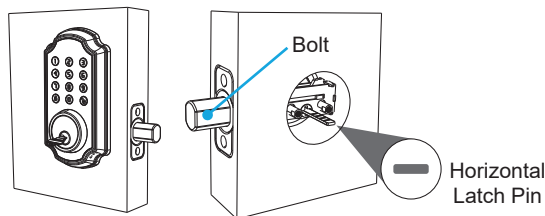

Fig. 8
Step 3. Insert the key into the key hole to turn the latch pin horizontally. The bolt should now be extended (Fig. 8).